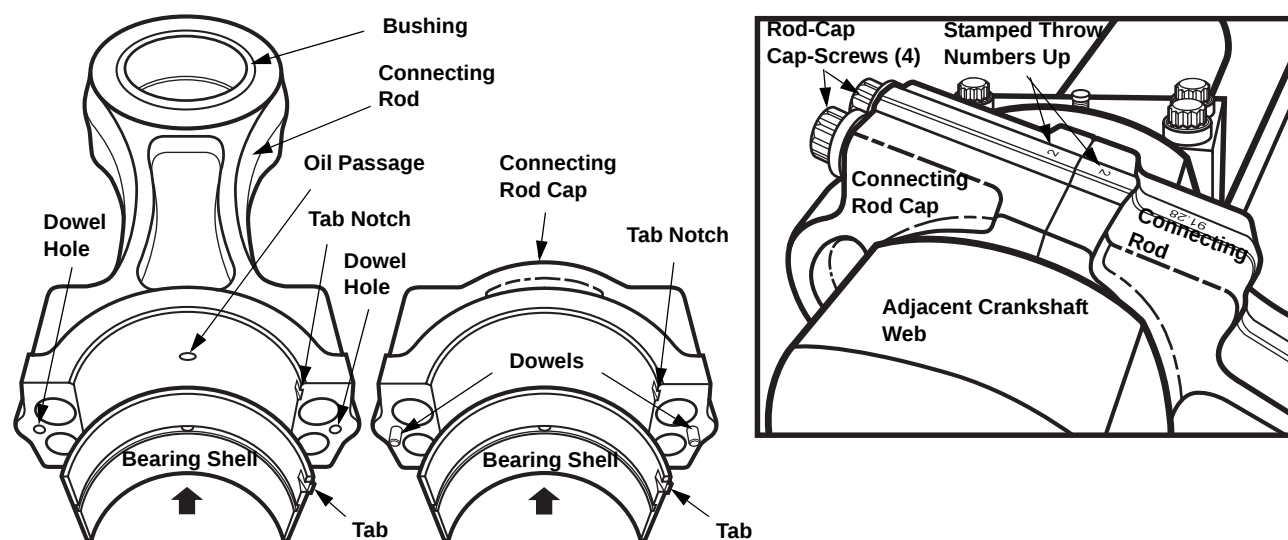

FIGURE 5-7 CONNECTING ROD ASSEMBLY INSTALLATION
1. If installing a new replacement connecting rod, stamp throw number on the tops of the connecting rod and bearing cap, (with bearing notches up), matching its throw location, see Figure 5-7 on Page 5-9.